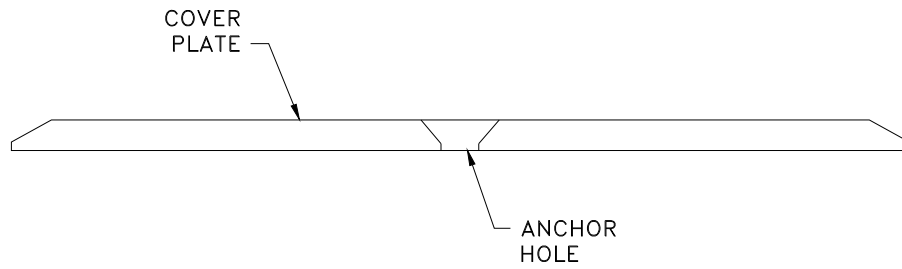

Figure 13
STEP 23. Select a section of the cover plate (see Figure 13).